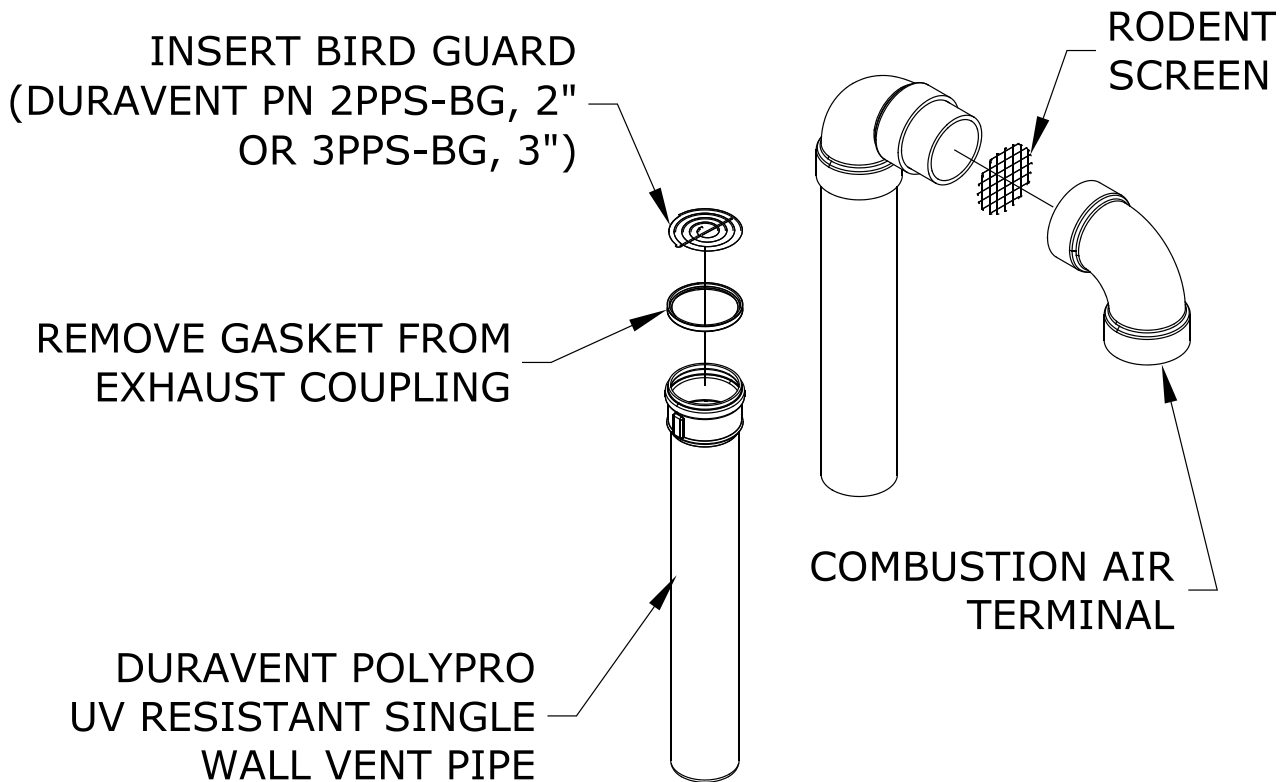

Figure 7.37: Installation of DuraVent PolyPro UV Resistant Single Wall Vertical Terminal
- a. See Figure 7.37 for the proper orientation of twin pipe vertical terminals.
- c. A 180° bend (or two 90° elbows) are installed on the top of the air intake pipe. If two 90° elbows are used, a rodent screen can be installed between them (Figure 7.37). If a 180° bend is used, install the rodent screen in the open side of the bend, using a ring made of PVC pipe. If desired, the termination fittings can be attached to the end of the intake pipes with field supplied stainless steel screws so that they can be later removed for cleaning and inspection. If this is done, drill a clearance hole in these fittings and a tap hole in the end of the intake pipes to accept these screws.